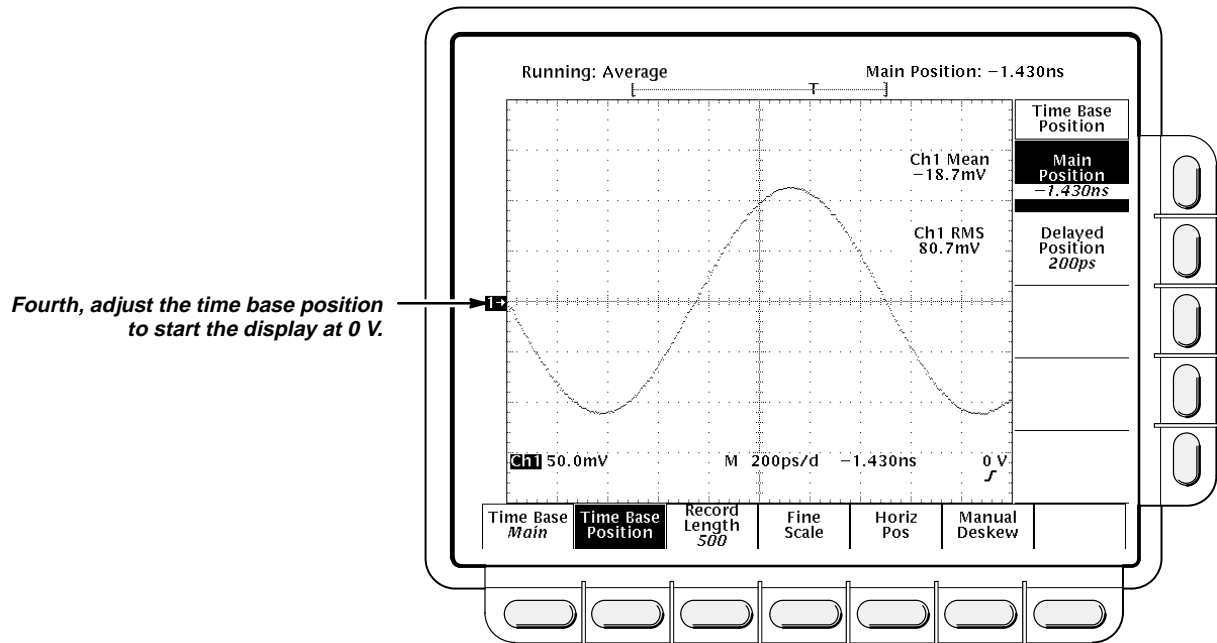

Figure 1-26: Trigger Delay Jitter Time Base Position
- Press the main-menu button **Time Base Position**; using the general purpose knob, slowly adjust the time base position a small amount until the displayed waveform starts at 0 V (at the left center of the screen). See Figure 1-26.